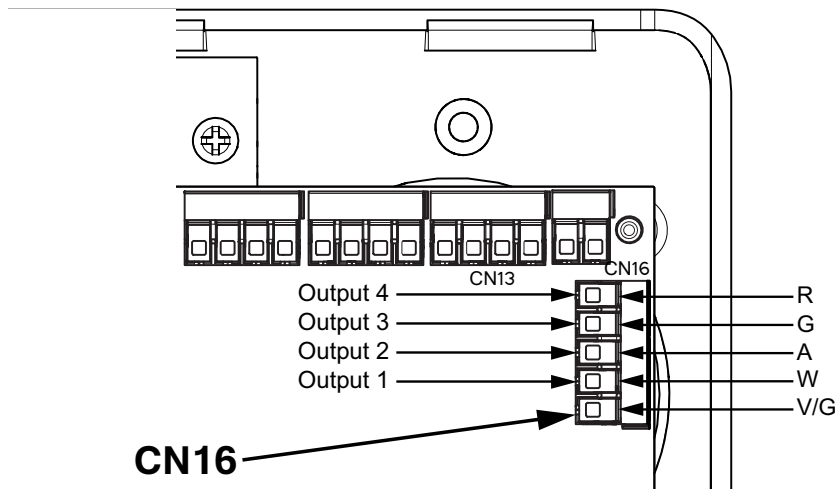

Figure 14 NC-4LED connections on terminal CN16
1. Connect the first 5 wires to terminal CN16, a 5-position screw down block. There are 4 live outputs and a common return for the brown wire (see Figure 14).